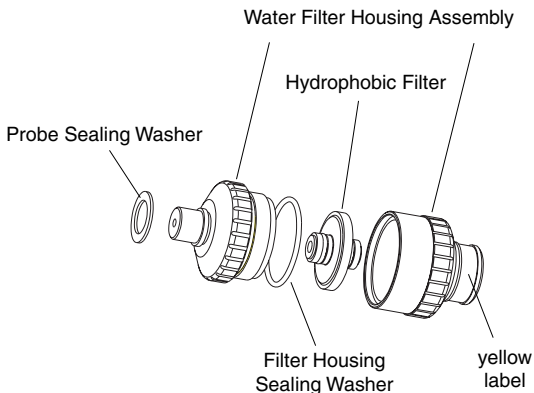

Figure 4.4 Water Filter Assembly
- 1) Unscrew the filter housing assembly (Figure 4.4).